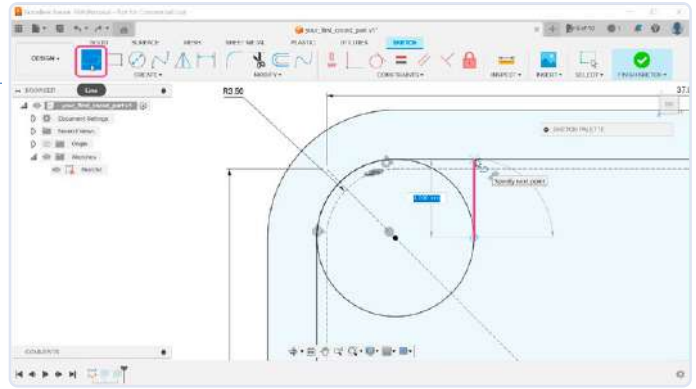

Figure 10: Shaping the support using the Line tool.
10) The area between the circle and the wall is very thin (Figure 10) and will be difficult to manufacture. We can close it by drawing more shapes with a line tool. In the toolbar, select the *Line* tool and move the cursor over the circle's center. After that, keep moving the mouse cursor to the right side until you reach the circle. In that position, draw the first point of the line. Move the mouse cursor to the top until you reach the wall. In that position, draw a second point on the line. Make sure that the movement is somehow straight — that will tell Fusion 360 to add any necessary constraints automatically.